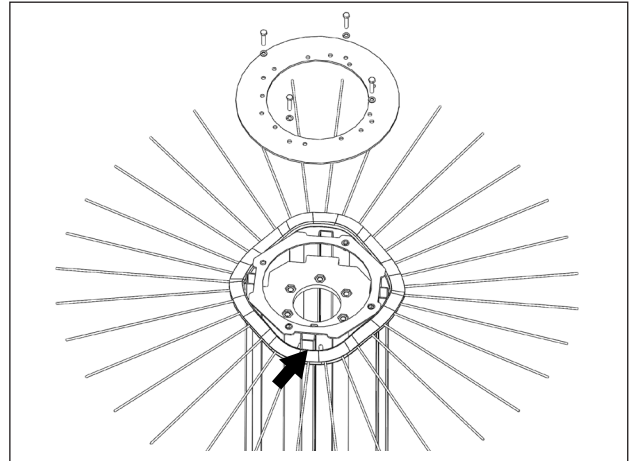

figure 1
- a. Slide the first section onto the core with the drive pins on each side of a tube. Make sure that the drive pins angle up. (figure 1)